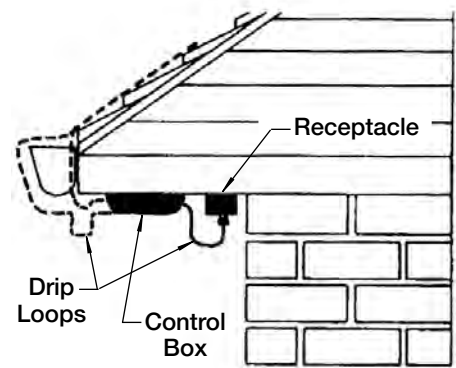

Fig. 2
1. Mount the RS2 under the soffit, or equivalent location protected from the weather, using the screws provided. Refer to Fig. 2. Ensure that the mounting location is close enough to the receptacle supplying power to the unit to allow the cord on the control to be plugged in. The connection should be located for the best protection from the weather and a drip loop used as appropriate. Drip loops should be used between the control box and both the sensor wire and power connection to the heater wire as appropriate for maximum protection. If desired, this receptacle can be controlled by a switch (with a pilot light) located inside the house. See Fig. 2.